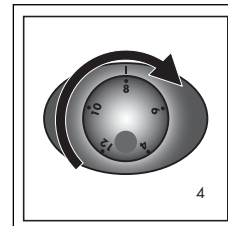

fig.4
- Models provided with the selection knob, turn to the number of cups you wish to grind (fig. 4). However, this is a reference the amount will change depending on individual taste, the type and roasting of the coffee beans and the consistency of grinding selected.